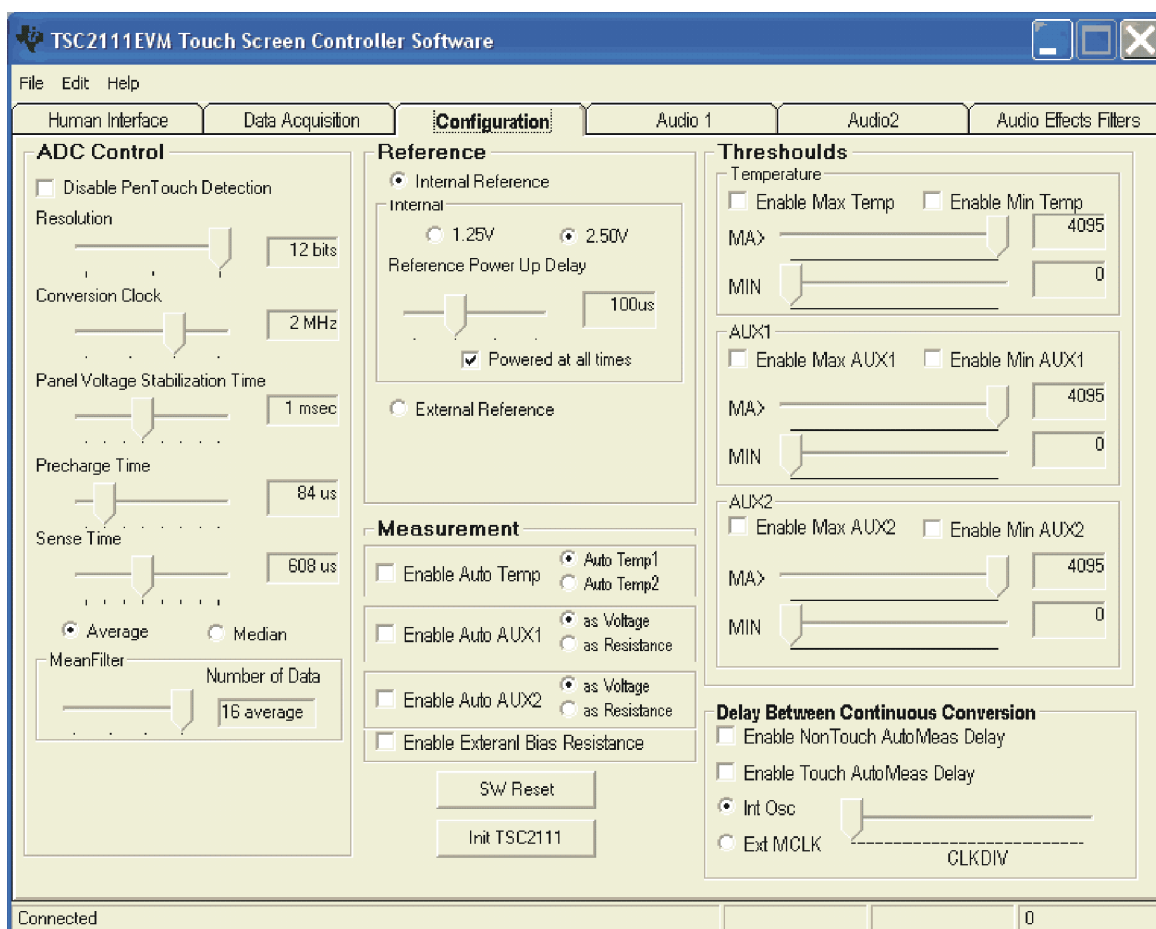

Figure 8. Configuration Screen
This screen accesses all the configurable settings for the TSC2111 analog-to-digital converter (ADC) and reference as shown in Figure 8.
- **Average/Median** — There are two ways to reduce noise effects on the ADC measurements. One is averaging, where 4, 8, or 16 readings are averaged; another option is to find the median value among 5, 9, or 15 readings. The default is the average mode, as shown in Figure 8. Median mode can be selected with the corresponding button.
The touch screen function is always performed using a ratiometric or differential mode on this EVM set to obtain better touch readings. For all other A/D functions (non-touch measurements such as BAT), a reference voltage is needed for the A/D converter. Figure 8 shows this section with the TSC2111 internal reference chosen.